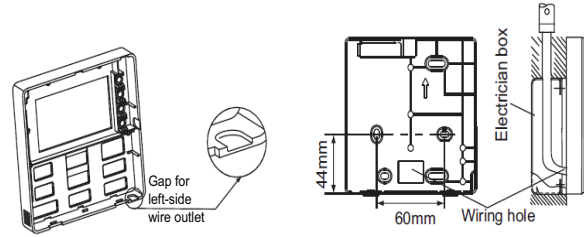

Fig. 2 — Controller Inner Wiring Outlets
6. Provide a 1-in. by 1-in. square opening in the wall where the controller will be mounted to accommodate the control cable as shown in Fig. 2 and 3. Be sure the distance between the controller and the indoor units is not more than 820 ft.